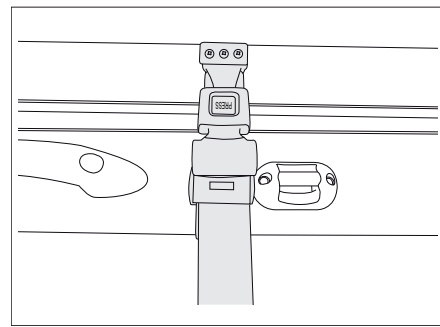

Fig. 161 Manual pull-down bed retaining belt
- Secure the pull-down bed to the roof by means of the retaining belt (Fig. 161).